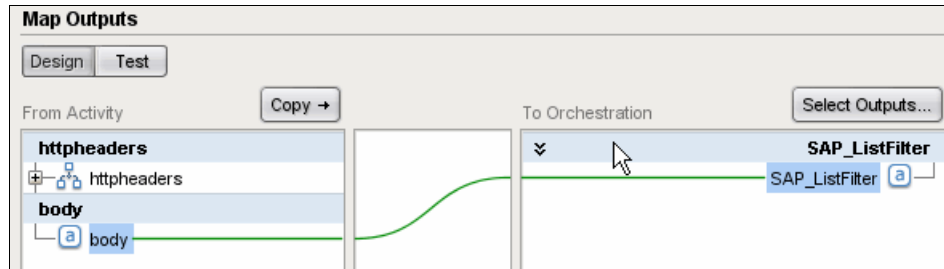

Figure 10-53 Map HTTP body to SAP\_ListFilter
- c. Map the body from the activity to SAP\_ListFilter, as shown in Figure 10-53 on page 389.